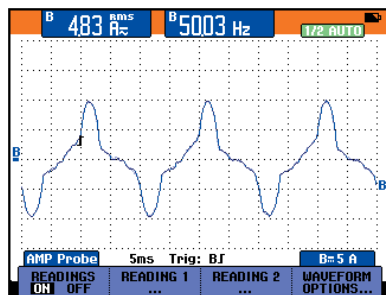

Figure 4. Phase current
**Transformer**—Current measurements (see Table 1) were taken on the neutral and on each phase of the transformer secondary using both a true-rms multimeter and an average-responding unit. A 600 A clamp-on current transformer accessory was connected to each meter to allow them to make high current readings. The current waveshapes are shown in Figures 4 and 5.